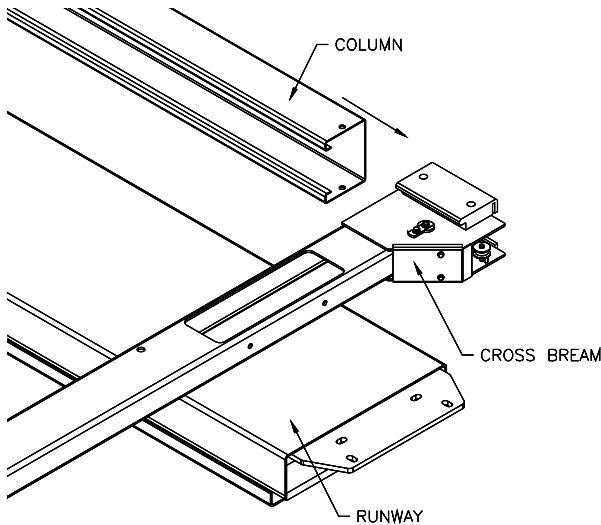

Fig 5 – Column/Cross Beam Assembly
- 5) With the runways spaced per **Fig 1**, lay the cross beams on the runway per **Fig 5** below. Place cardboard between the runway and cross beam. Slide the column over the ends of the slide blocks on the cross beam. Repeat for each column.